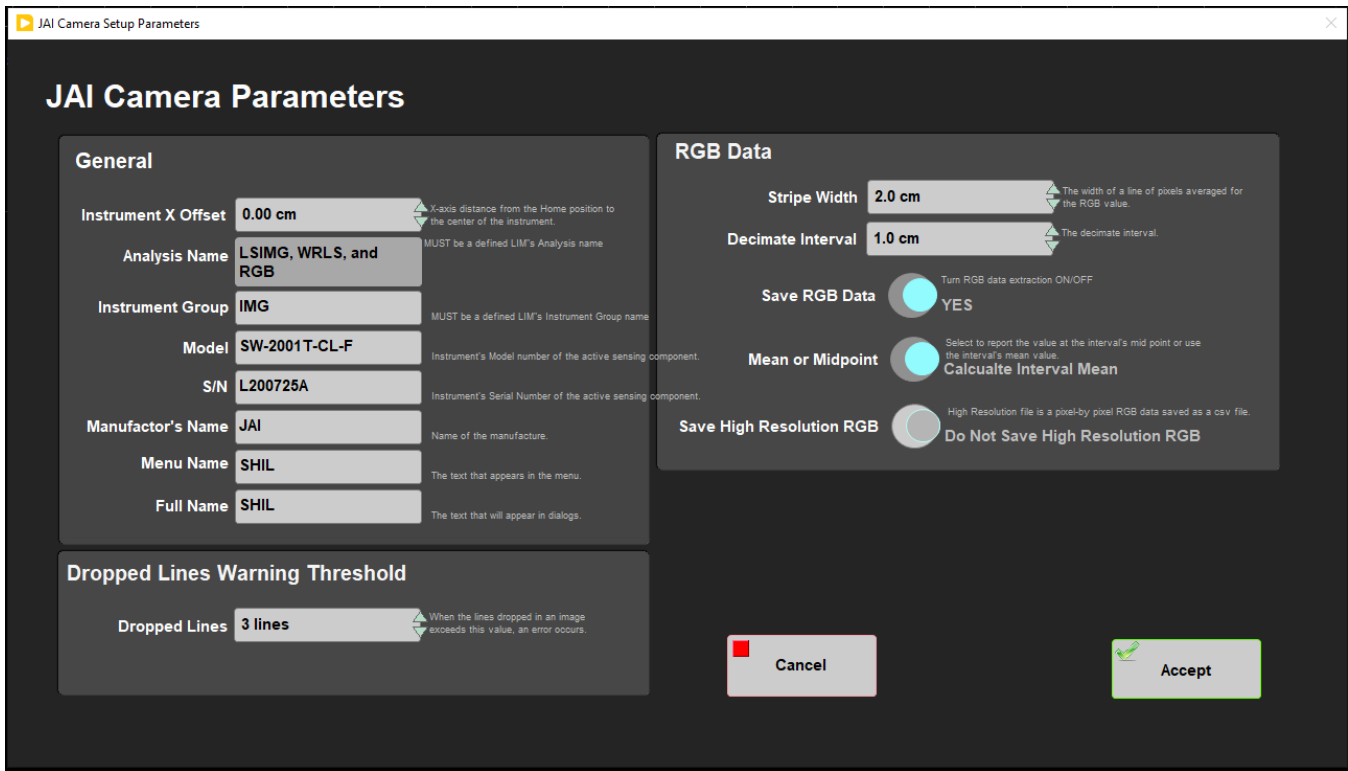

Figure 37. General Camera Setup window
2. Instruments > Camera: General Setup (Figure 37).